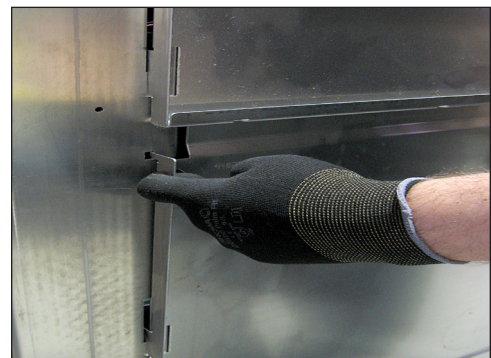

Figure 9: Removing Door
1. Place fingers in the slot located at the top-left corner of the door. Refer to **Figure 9**.
2. While pulling up on the handle in the center of the door, pull the top-left corner of the door outward so it clears the tab located on the display back sheet. Refer to **Figure 9**.